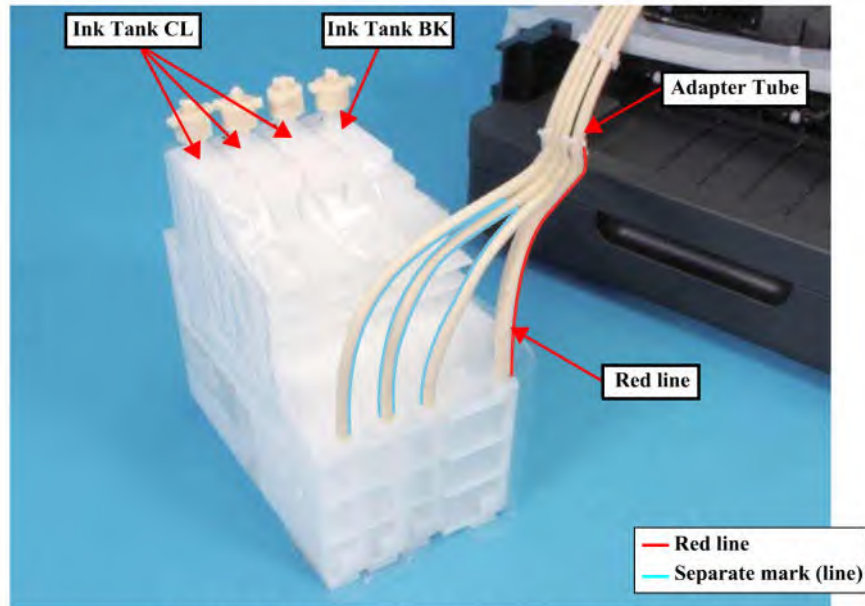

Figure 3-47. Removing the Adapter Tube
- Red line is written on the tube for black ink (the tube is thicker than the one for the other colors) and lines made when separated the tip are on the tubes for color ink. When connecting the Adapter Tube to the adapter, direct each line in the correct direction referring to Figure 3-47.